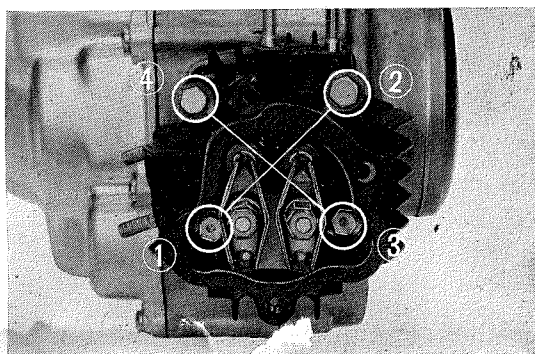

Fig. 32
4. Torque the head bolts to 90–120 kg-cm (6.5–8.6 lb-ft). (Fig. 32)